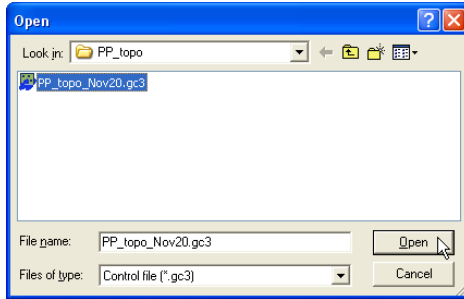

Figure 2-6. Open Control File
- On the **Open** dialog box, navigate to the location of the file, select the file type as Control file (*.GC3), select the desired file, and click **Open** (Figure 2-6 on page 2-5).